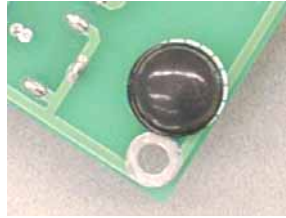

Figure 1-26
- ✓ If you are using the Board of Education, it has circles on its underside that show where each rubber foot should be attached. Remove each rubber foot from the adhesive strip and affix it to the underside of the Board of Education as shown in Figure 1-26.